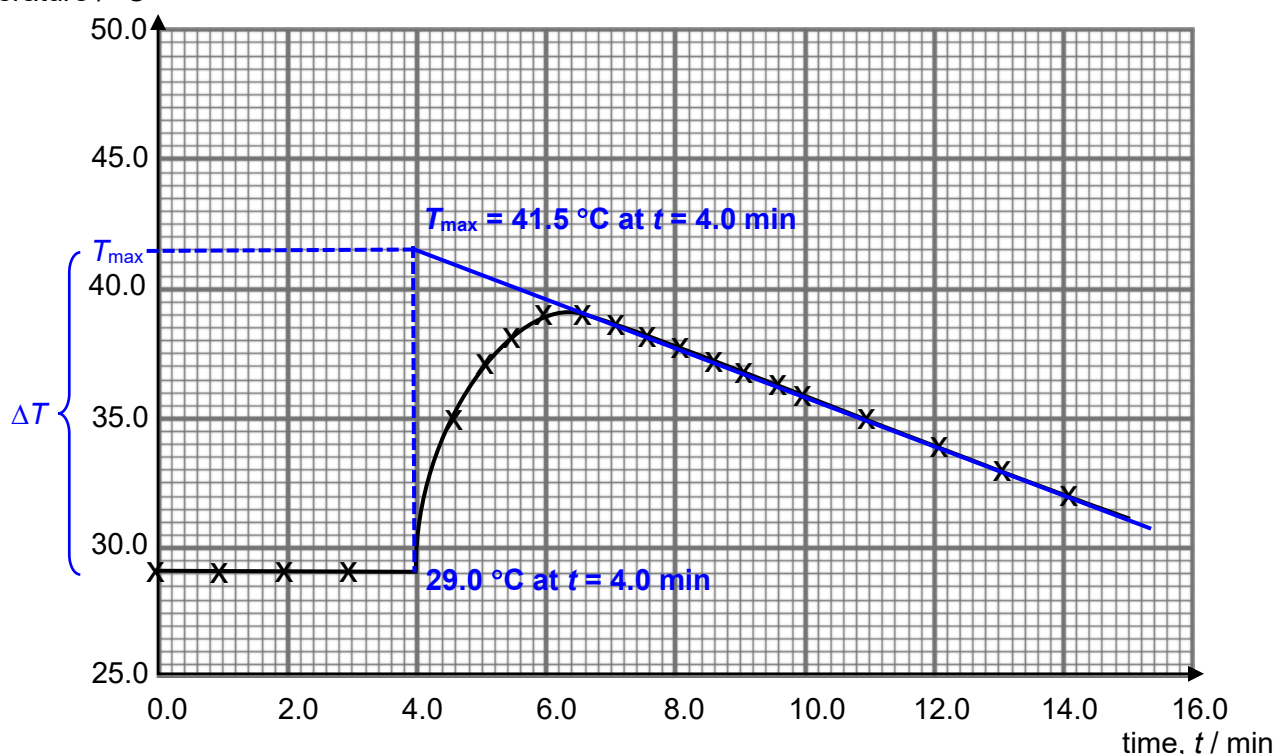

Fig. 7.2
- The results are shown in Fig. 7.2.
- (i) On the grid in Fig. 7.2, taking into account the portion of the graph after the reaction had finished, extrapolate (extend) the line back to $t = 4.0$ min.